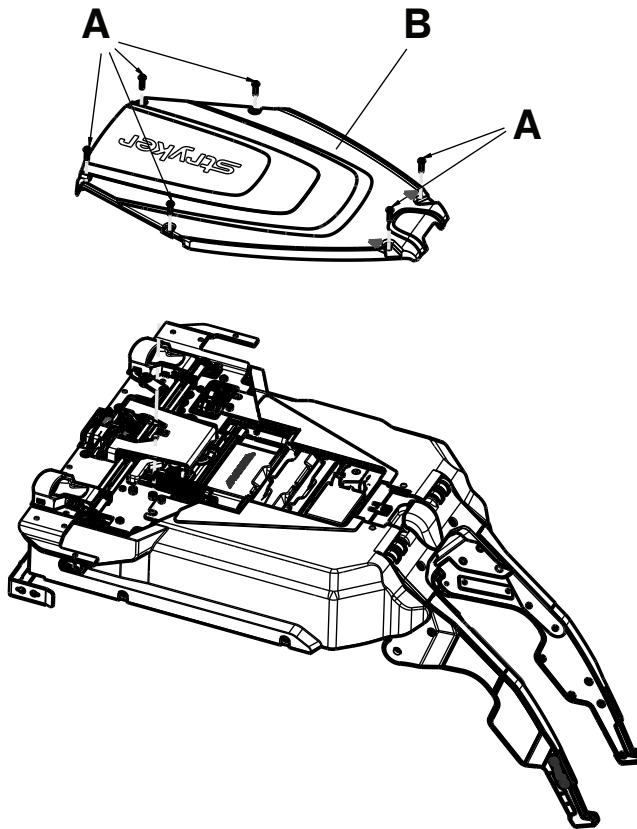

Figure 13 – Trolley top cover
1. Using a T25 Torx driver, remove the six screws (A) that secure the trolley top cover (B) (Figure 13). Save the screws.